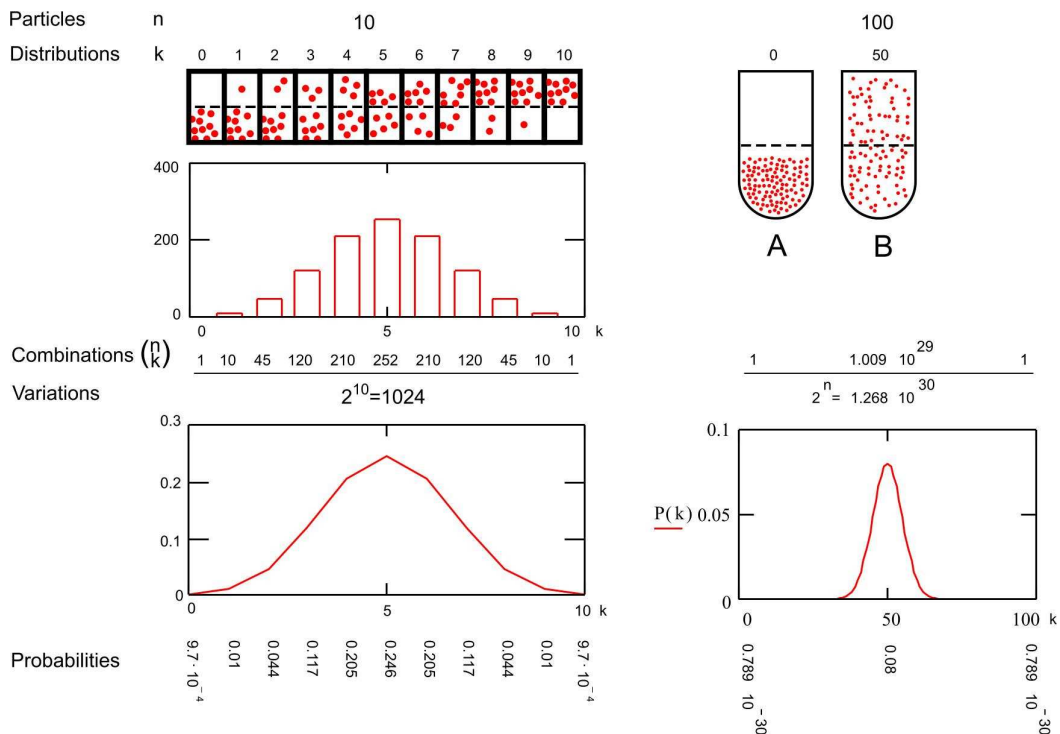

Fig. 5 The decreasing probability of concentration with a growing number of particles
The more particles there are, the more combinations are possible and the more improbable will be the two extreme cases of accumulation in one room. For example, if there are 10 particles, the probability of total sprawl is 252 possible combinations from 1024 (25%), but the probability of total accumulation in one room is 1 case from 1024 (0.1% see Fig. 5, left).
Fig. 5 (A) shows the least probable distribution of 100 particles in a cylinder, but state B is very probable. These probabilities can be calculated as approximately $1/13 \cdot 10^{29}$ (A) and $1/13$ (B). So, if anything changes it will most probably change from A into B instead of from B into A. That asymmetry of process is the core of thermodynamics.
From Fig. 5 you also can learn that by an increasing number of particles most combinations accumulate around the middle of $k=0.5 \cdot n$. If you would calculate the possible combinations of 1000 particles the probability of sprawl (B) between $k=495$ and 505 (1% of n) would be practically 1 (100%). The graph would show a vertical line rather than a gaussian 'bell'.